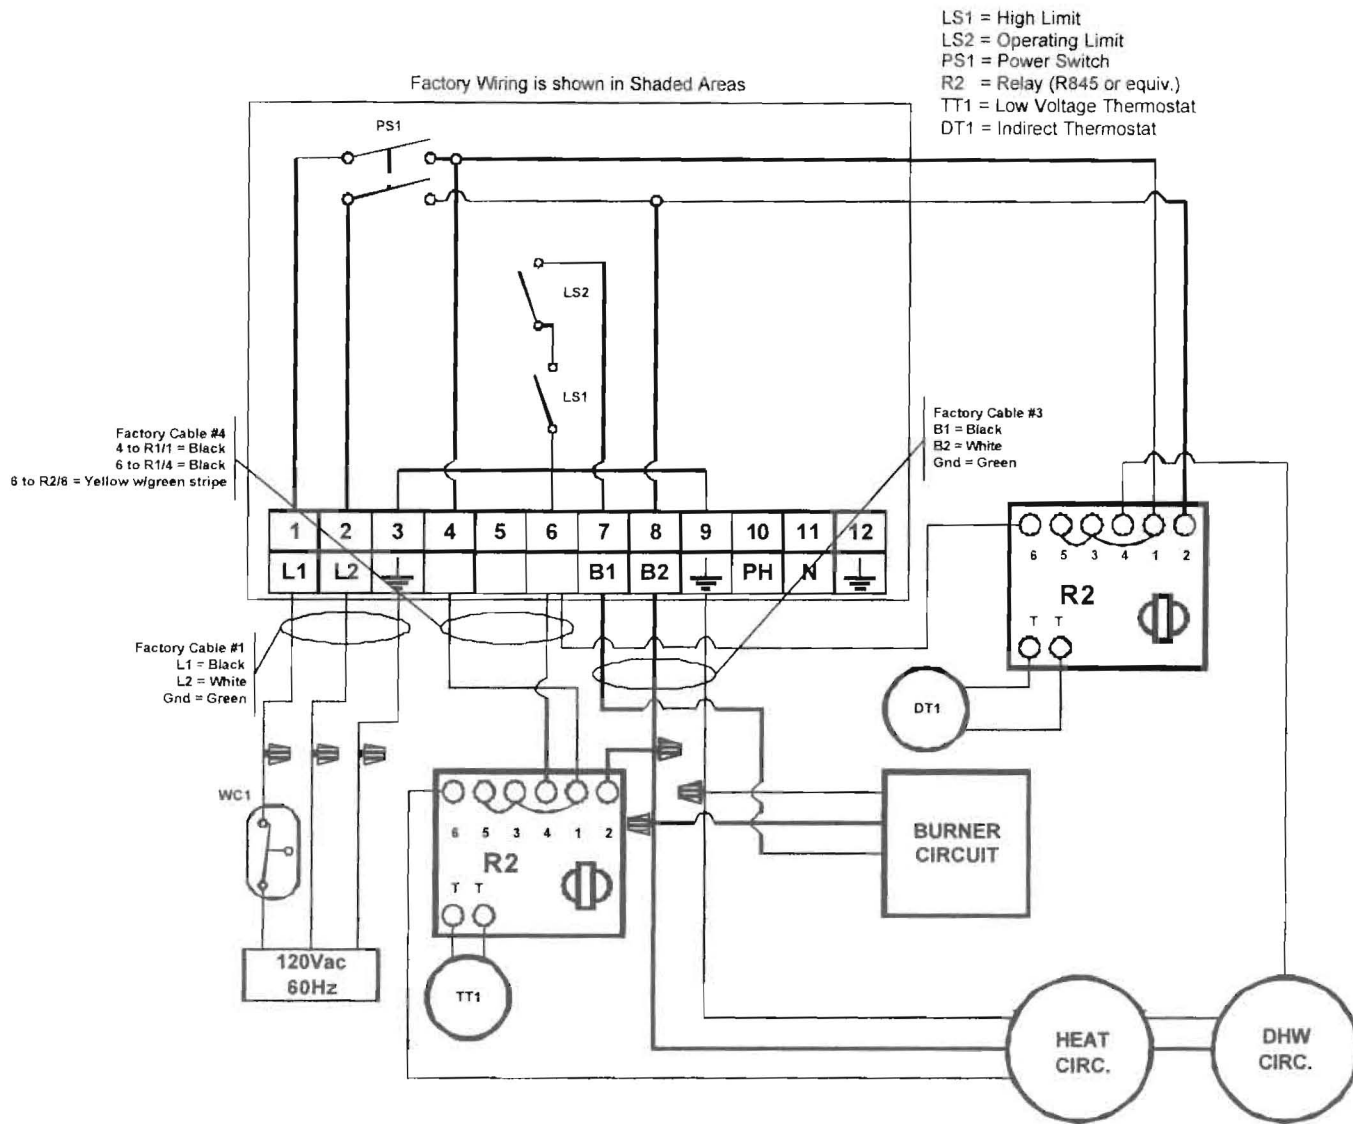

Figure 11
9. The wiring of a non-priority indirect is shown in **Figure 11**.